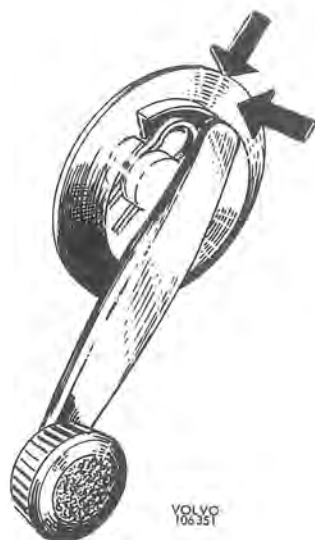

Fig. 8-11. Removing winding handle
2. Remove the window winding handle by pressing in the washer towards the door upholstery and then towards the handle in the same direction as the handle as shown in Fig. 8-11. This releases the spring clip and the winding handle can be taken off.
When fitting, make sure that the spring clip is fitted so that its open end faces towards the winding handle as shown in Fig. 8-11.